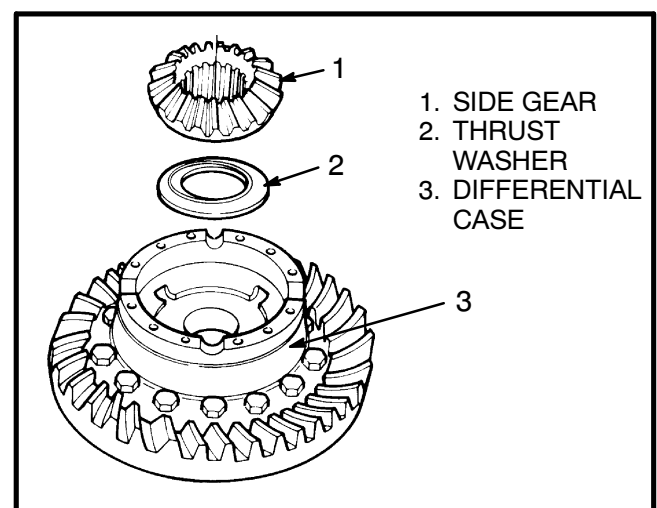

FIGURE 12. INSTALL A THRUST WASHER AND SIDE GEAR
- b. Lubricate and install a side gear and thrust washer in the differential case as shown in FIGURE 12.